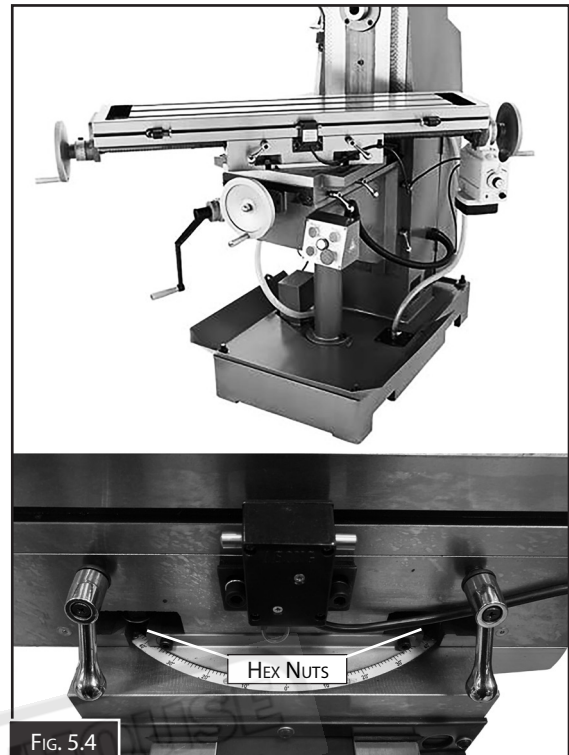

FIG. 5.4
The table rotates 45° left or right (Fig.5.4)
3. Loosen the four hex nuts that secure table to knee (see Fig. 5.4).